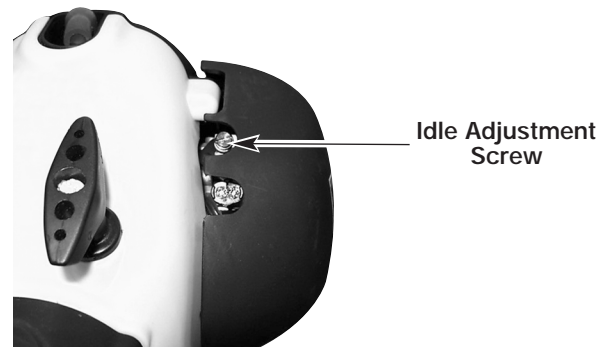

Fig. 28
1. Locate the idle adjustment screw on the carburetor (Fig. 28).